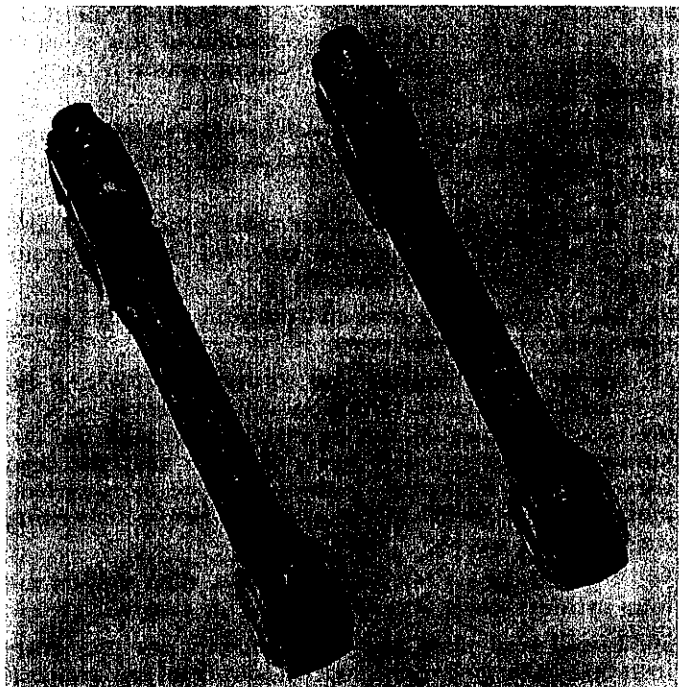

FIGURE 17. CONNECTING ROD JOINTS—
These rough edges will align perfectly only with the piece from which they were broken as illustrated in the left connecting rod in Fig. 17. Notice that the joint is invisible. The right rod is improperly assembled, and the joint is very noticeable. Always recheck a joint which looks like this.
38. Tighten screws gradually and move cap back and forth gently until it is properly aligned with the connecting rod. Inspect joint; if joint is visible, the cap is improperly aligned. See Fig. 17. Loosen cap and realign, then retighten cap.